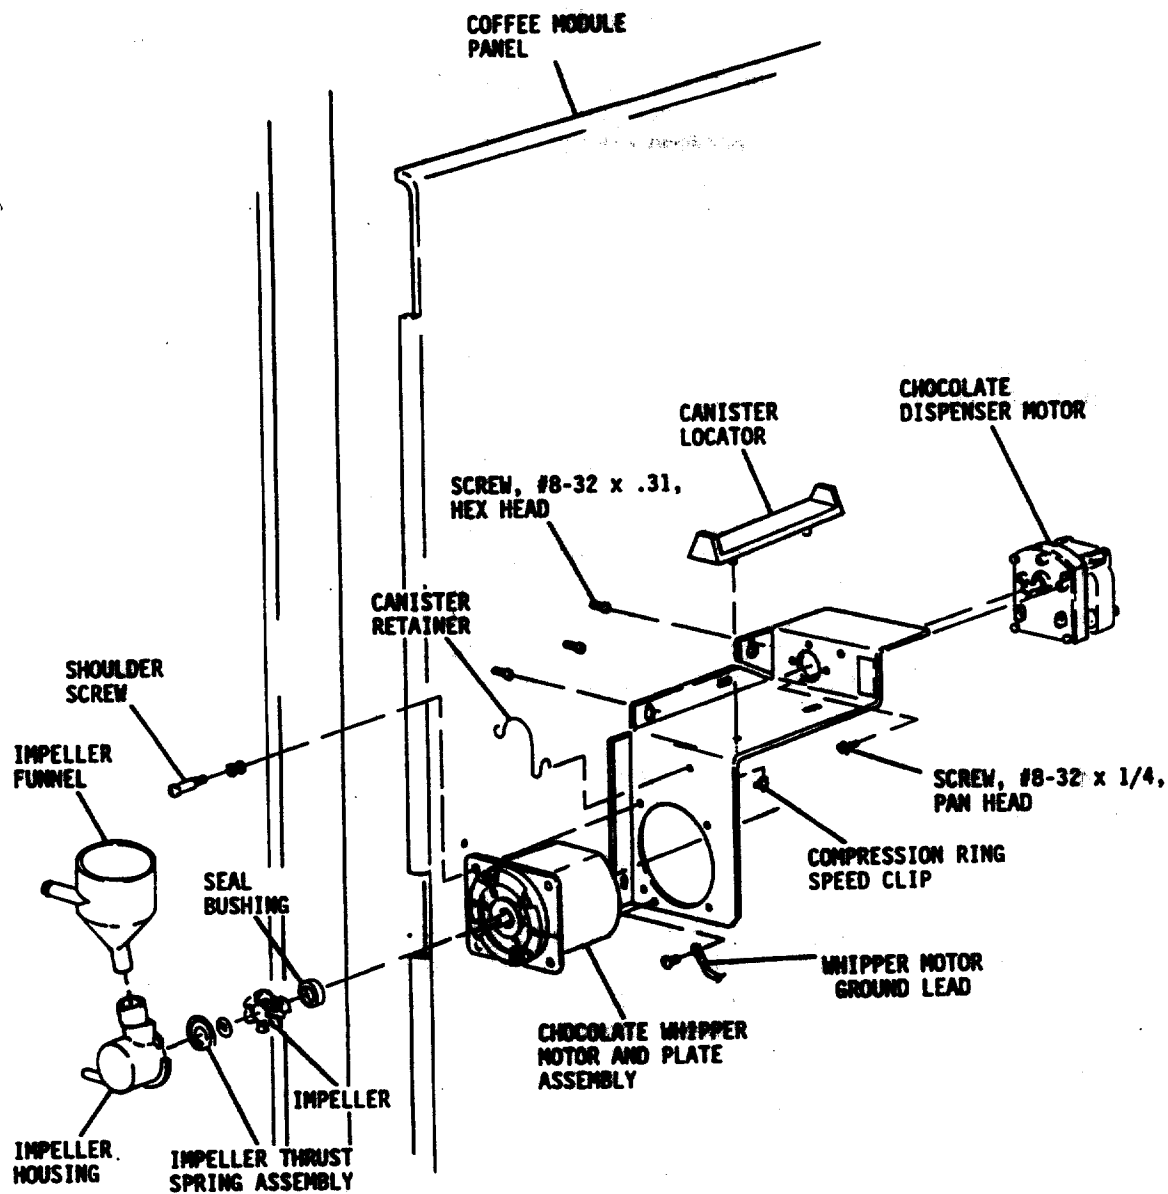

FIGURE 3. Assembly of Hot Chocolate Shelf Module
Refer to Figure 3.
10. Secure the whipper motor ground lead to the chocolate shelf at the location shown in Figure 3. Use one of the #8-32 x .31 Hex W/Head screws.